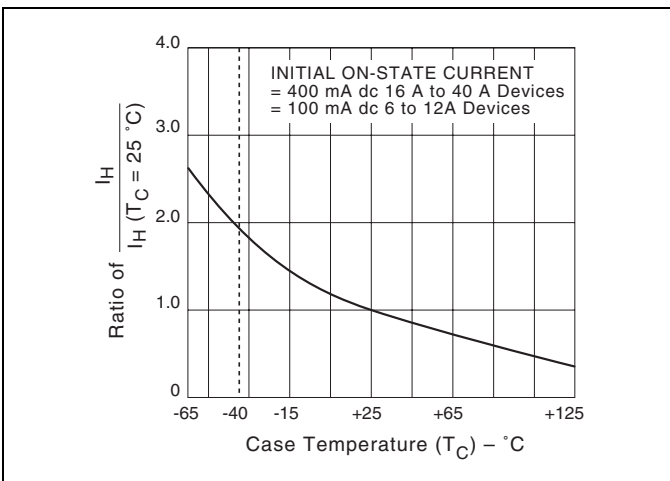

Figure E4.9 Normalized DC Holding Current versus Case Temperature
- See Figure E4.9 for IH versus TC.